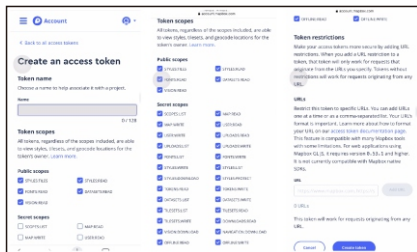

Figure4
2.5 Enter token name and select applicationscopes,then click on “create token”.(See Figure 4)